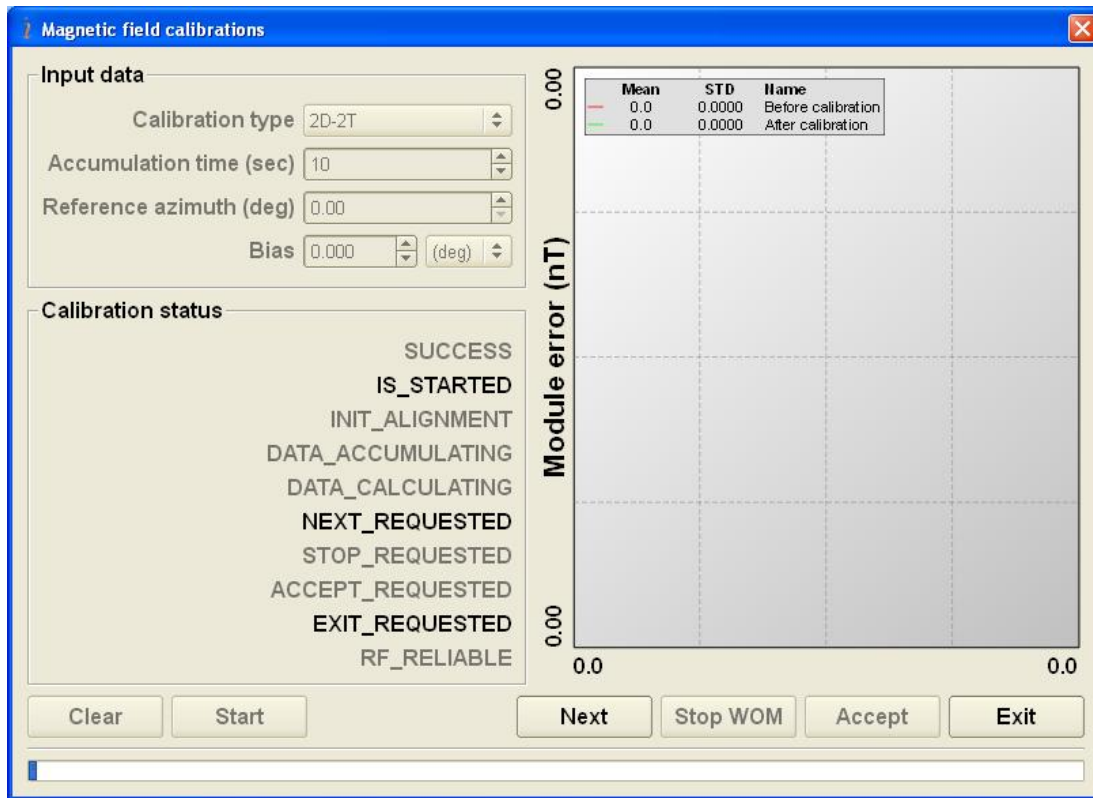

Fig. 10.4
Step 7. Click «**Start**» button. In “Calibration status” window a few captions are highlighted (see Fig. 10.4):